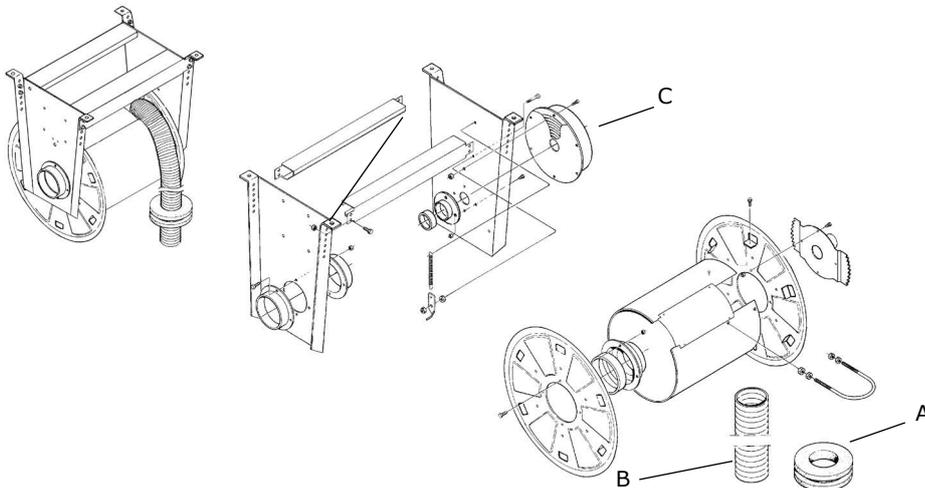

Fig. 5.2 Replacing the spring cassette
- As shown in *fig. 5.2*, take off the hose stopper and tailpipe adapter (A) and allow the hose to completely coil onto the reel (B).
- Unscrew all socket head cap screws at the spring casing (C). Mark the position of the spring casing.